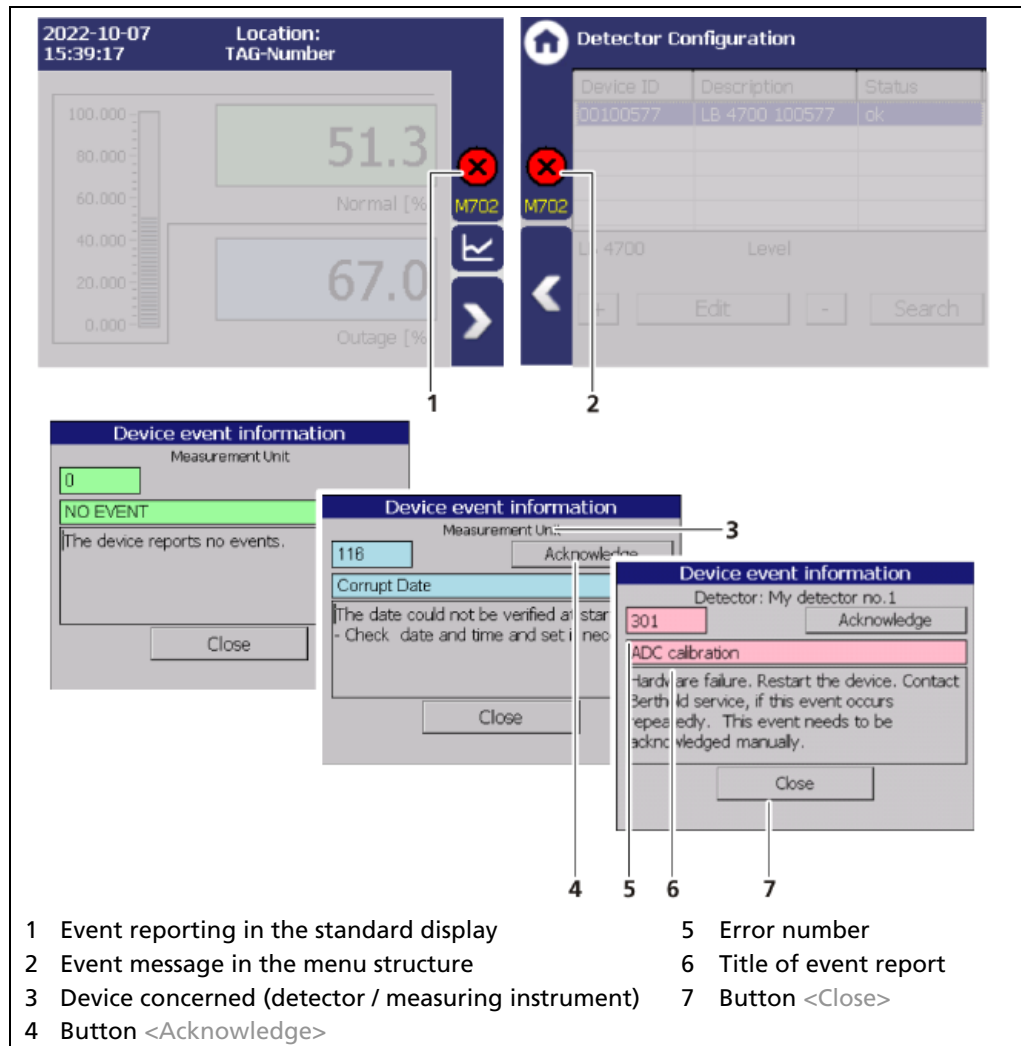

Fig. 20 Event reports (examples)
1. Click on the icon (Fig. 20, item 1 or item 2) to display detailed information about the event.
2. Click the button <Acknowledge> (Fig. 20, item 4) to confirm an event that requires a manual confirmation.
3. Click <Close> (Fig. 20, item 4) to return to the submenu or to the standard display.